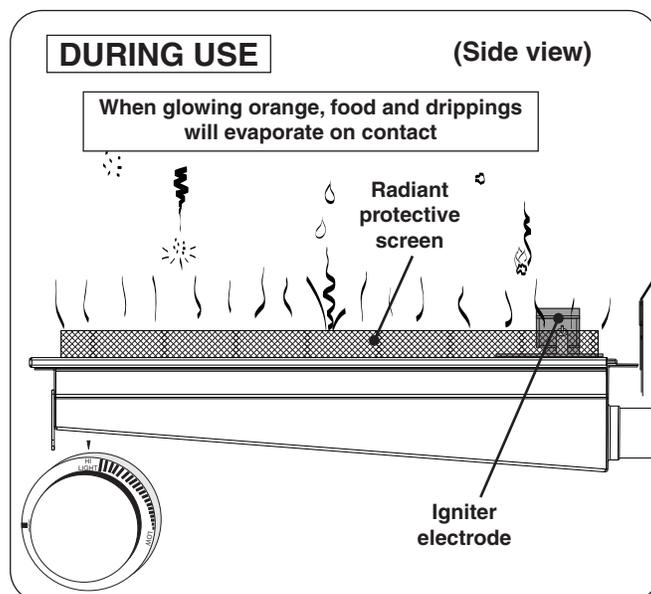

Fig. 34-3 Infrared burner - DURING USE
- **DO NOT place food on the cooking grid until the infrared burner glows orange (Fig. 34-3).** Drippings are heated and evaporate instead of sticking to and impairing burner function.